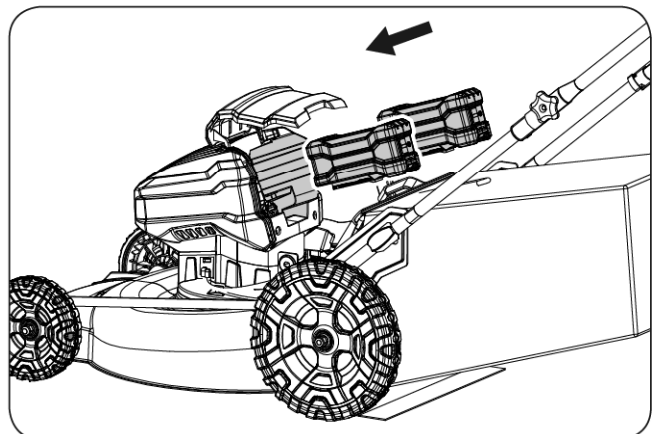

Figure 6
2. Align the two batteries with the battery port. Make sure the battery release button snaps in place and the batteries are fully seated and secure in the mower before beginning operation. (See *Figure 6*)